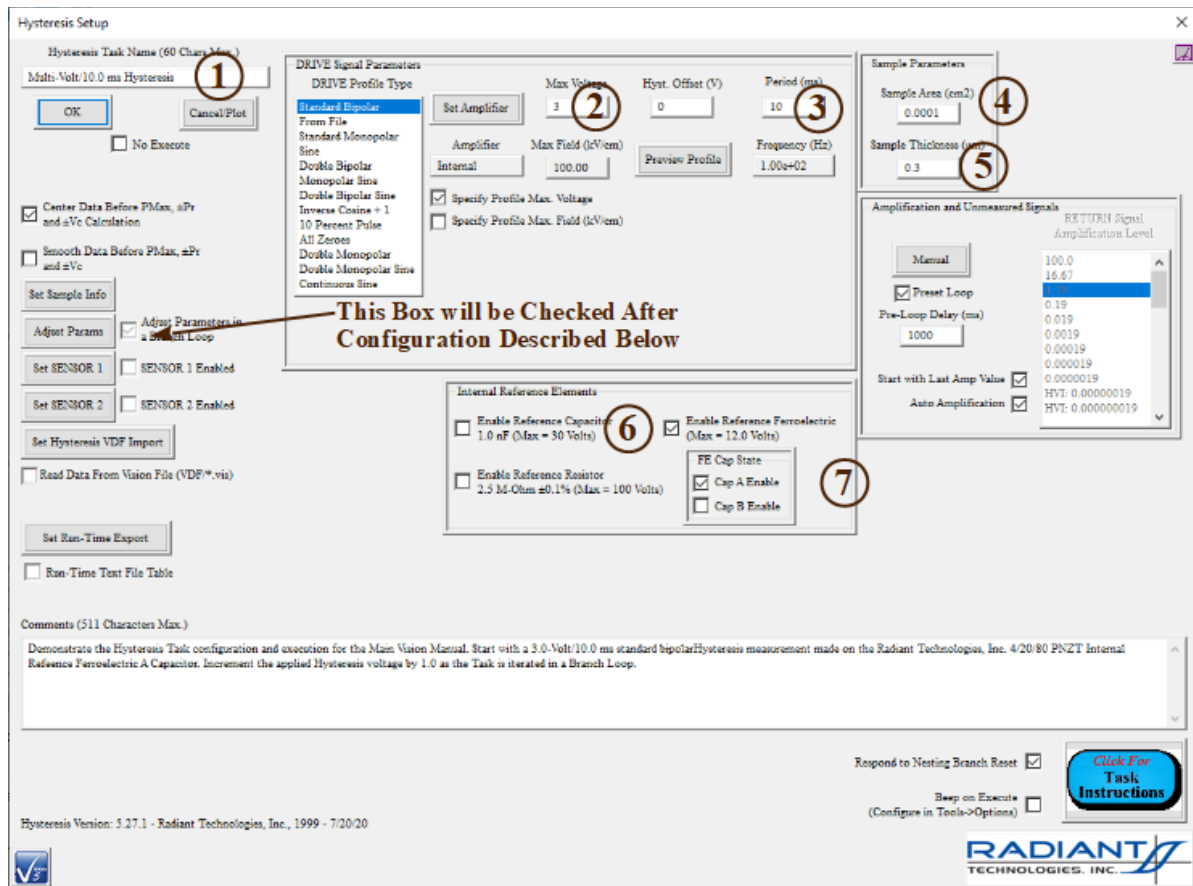

Figure 1 - Configure the Hysteresis Task.
- Then click *OK* to return to the main dialog. Note that the *Adjust Parameters in a Loop* control now appears checked as in **Figure 1**.